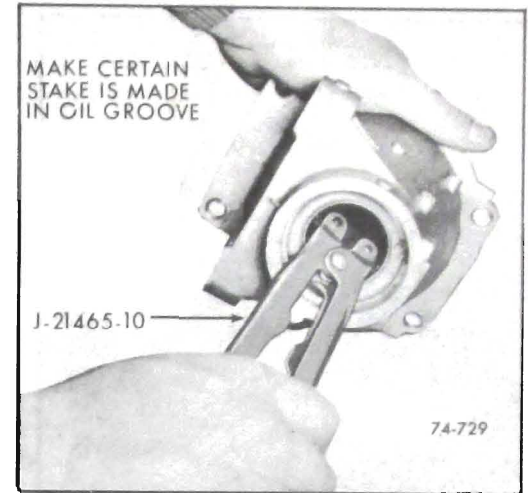

Figure 76-731
c. Using J-21465-10, stake bushing in oil ring groove. See Figure 76-731.
f. Using J-21465-10, stake bushing in oil grooves. See Figure 76-731.